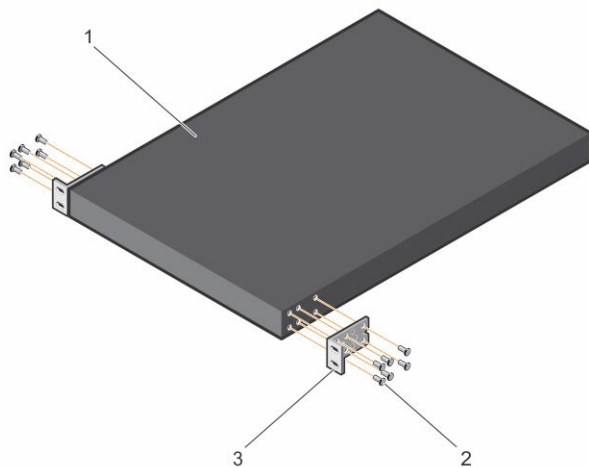

Figure 6. Attaching Mount Brackets to N20xx
- 2 Secure the bracket as in item 3 in Figure 6 to the chassis by tightening the screws as in item 2 in Figure 6 provided with the mount bracket.